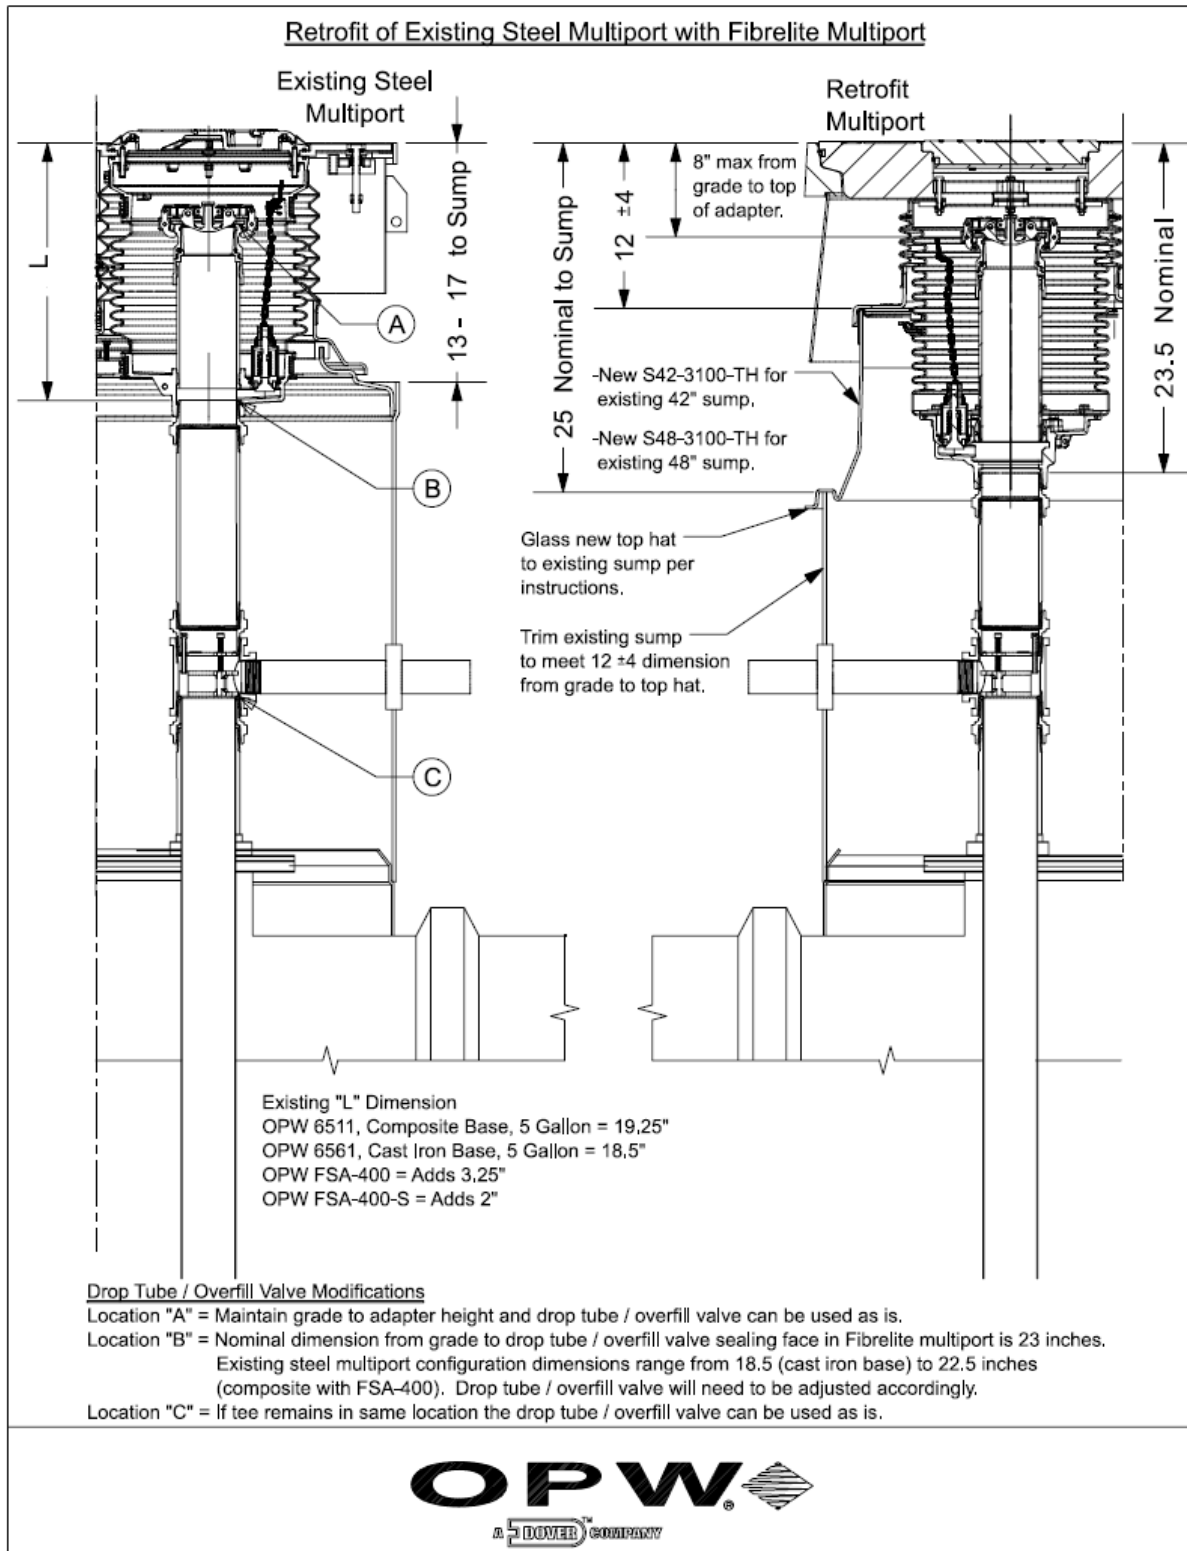

Figure 27
41. Ensure sump / top hat installed under cover can be adapted to meet the dimensions shown in Figure 27.
42. Ensure riser heights can be adjusted to meet dimensional requirements shown in Figure 27.
43. If desired, the existing drop tube / overfill valve can potentially be used with the new installation. Determine mounting location of current drop tube / overfill valve (See Figure 27 for 3 possible options).
46. Install top hat / riser with WS-RING-37 to meet the 12 inch dimension from grade to top hat shown in Figure 27. Follow instructions supplied with top hat or riser. Steps 23 thru 30 may apply.
Note: If drop tube / overflow valve were to be installed in Location C as shown in Figure 27 if the tee remains in same location the drop tube / overflow valve can be used as is.